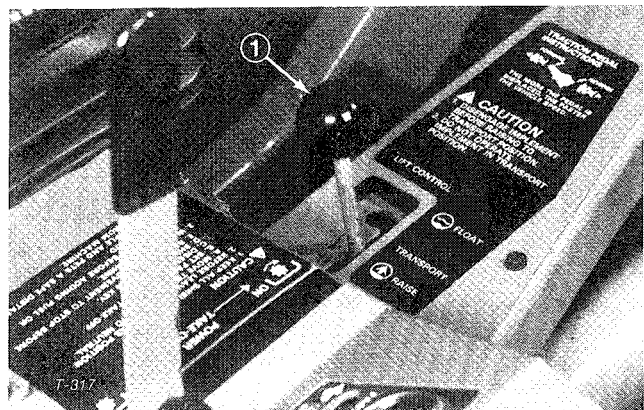
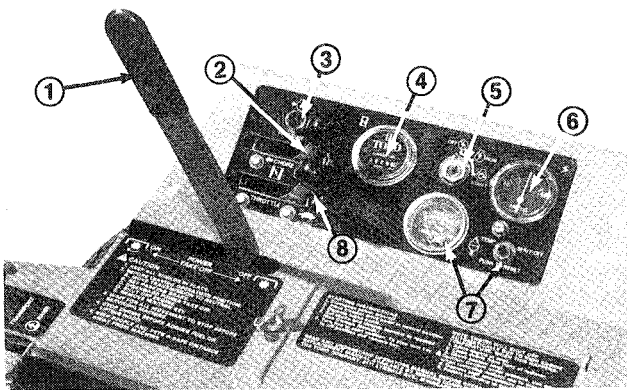

Figure 19
Figure 20
**Lift Lever (Fig. 19)** — The hydraulic lift lever has three positions; FLOAT, TRANSPORT and RAISE. To lower implement to the ground, move lift lever forward into notch, which is the FLOAT position. The FLOAT position is used for operation and also when machine is not in operation. To raise implement, pull lift lever backward to the RAISE position. After implement is raised, allow lift lever to move to the TRANSPORT position. Normally, implement should be raised when driving from one work area to another, except when descending steep slopes.
**PTO Lever (Fig. 20)** — The PTO lever has two positions; ON, engage and OFF, disengage. Slowly push PTO lever fully forward to ON position to start the implement or cutting unit blades. Slowly, pull lever backward to OFF position to stop implement operation. The only time PTO lever should be in the ON position is when implement or cutting unit is down in operating position.
**Oil Pressure Warning Light (Fig. 20)** — The oil pressure warning light will glow and a buzzer will sound when oil pressure in engine drops below a safe level. If low oil pressure ever occurs, stop engine and determine the cause. Repair the damage before starting the engine again.
**Hour Meter (Fig. 20)** — The hour meter registers accumulated hours of engine operation. Use the hour meter to determine intervals for service maintenance and lubrication.
**Ammeter (Fig. 20)** — Ammeter shows charge rate of the battery by the alternator. When engine is running, there usually is a slight charge, unless engine is idling slowly. Needle will point to 0 when battery is fully charged. By contrast, alternator is not charging the battery when needle points to (-) negative side of ammeter, and if this happens, repair the charging system to prevent discharge of the battery.
**Temperature Switch/Gauge and Reset Button (Fig. 20)** — The temperature switch/gauge registers the temperature of the coolant in the cooling system. If temperature of coolant gets too high the engine will shut off automatically. When this happens, rotate ignition key to OFF. Automatic shut-off of the engine usually results from debris on front of screen or radiator, which reduces air flow. After cleaning outside of screen and radiator or repairing some other damage, press the reset button and start the engine.
**Ignition Switch (Fig. 20)** — The ignition switch, which is used to start and stop the engine, has three positions; OFF, RUN and START. Rotate
**Choke (Fig. 20)** — To start a cold engine, close carburetor choke by moving choke control fully forward. After engine starts, regulate choke to keep engine running smoothly. As soon as possible, open the choke by pulling it backward.
**Throttle (Fig. 20)** — Throttle is used to operate engine at various speeds. Moving throttle forward increases engine speed — FAST; backward decreases engine speed — SLOW. The throttle regulates the speed of the cutter blades or other implement components and, in conjunction with traction pedal, controls ground speed of the traction unit.
1. Insure parking brake is set, PTO lever is in OFF position (Fig. 20) and lift lever is in TRANS-PORT or FLOAT position (Fig. 19). Remove foot from traction pedal and assure it is in neutral.
2. Move throttle control (Fig. 20) to SLOW position.
3. To start engine, move choke lever (Fig. 20) fully forward.
4. Insert key into ignition switch (Fig. 20) and rotate it clockwise to START position. Release key immediately when engine starts and regulate choke to keep engine running smoothly.